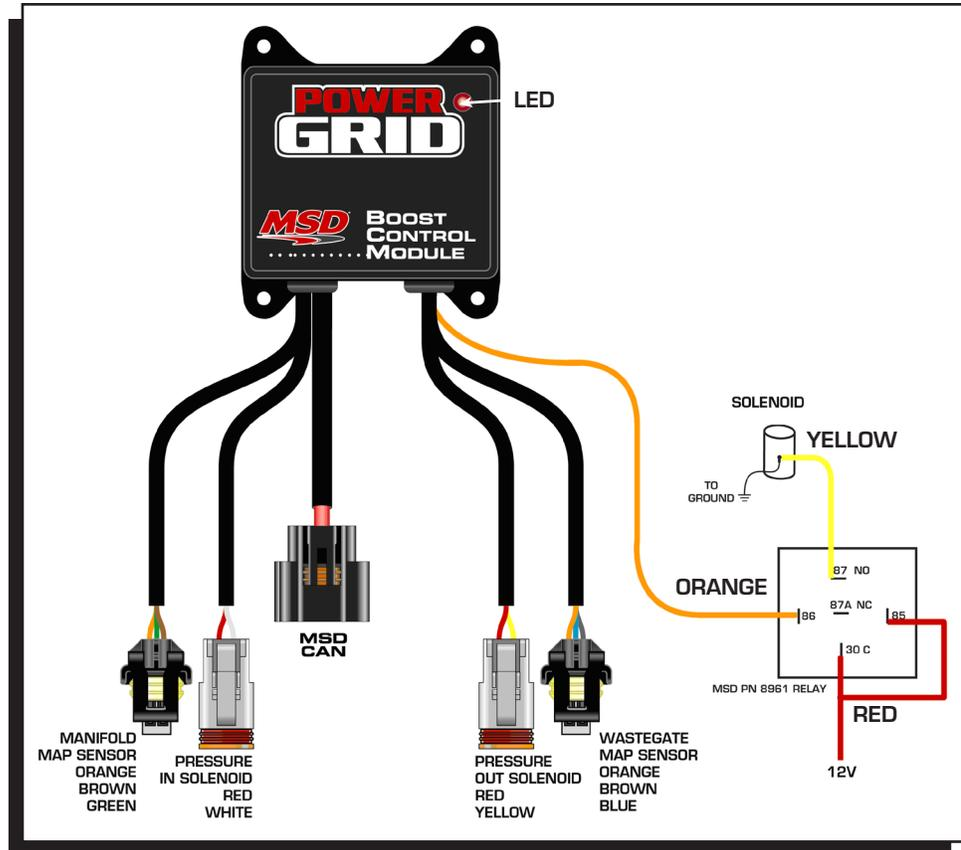

Figure 3 General wiring
3. The orange wire switches to ground when active. Use a relay to activate devices that consume more than 2 amps (Figure 3).
**Boost Pressure Switch:** The Orange wire switches to ground while the set boost pressure is exceeded. The Orange wire can sink up to 2 amps of current (continuous) to ground(Figure 3). The default setting is 75PSI and can be adjusted from 0psi to 75PSI.